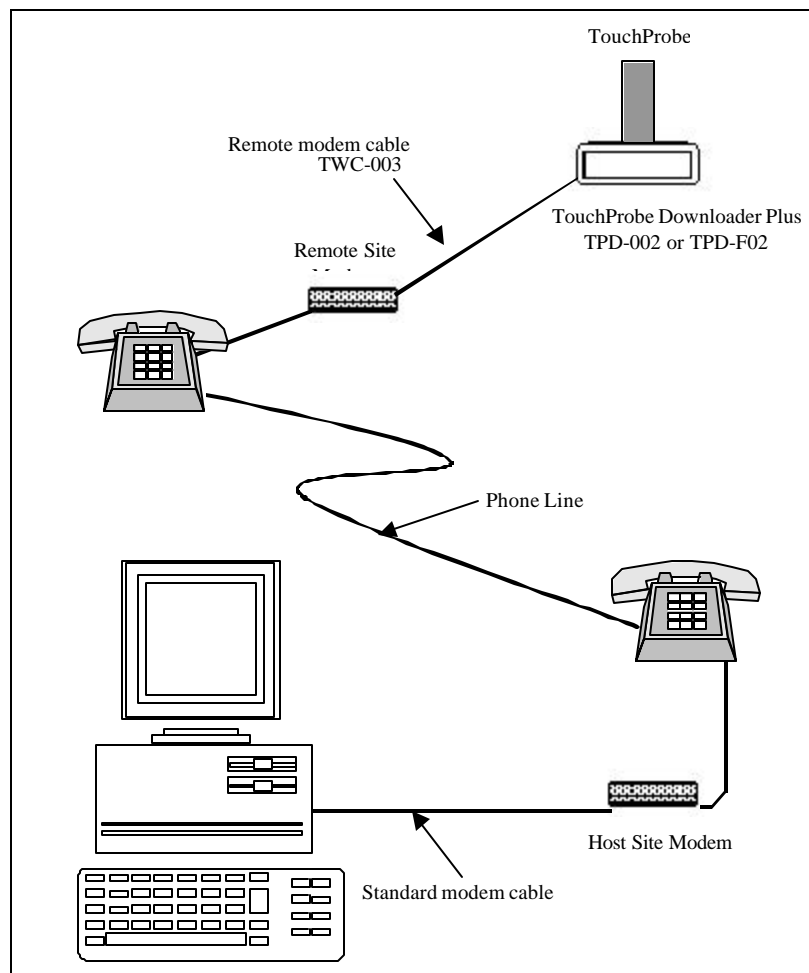

Figure G-7 TouchProbe Downloader Plus Modem Set Up
- **Videx remote modem cable (TWC-003)** – This is the cable that connects the TouchProbe Downloader Plus to the modem at the remote site for modem data transfer. See Figure G-7 on page 139.
12. To transfer the data, the equipment at the remote site and the host site needs to be connected as in Figure G-7. At the remote site, connect a TouchProbe Downloader Plus, remote modem cable (TWC-003), and a modem to the remote site telephone.
7. To transfer the data from the TouchProbe by modem, connect the TouchProbe, modems and computer as shown in Figure G-7 on page 138.